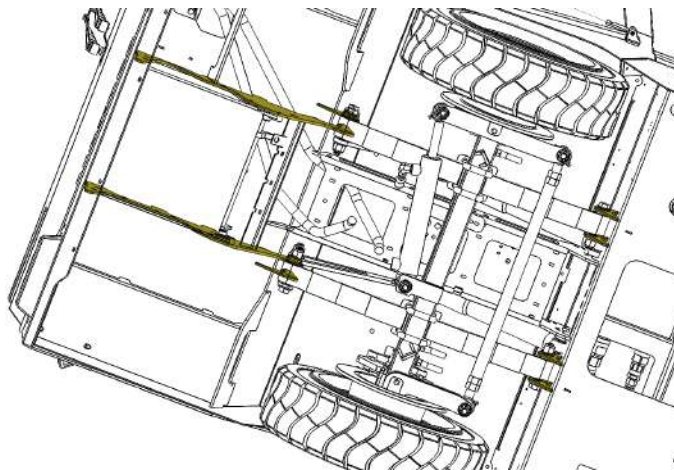

Figure 39. Front Suspension Mounting Tabs.
- Rear suspension mounting tabs (see Figure 39).